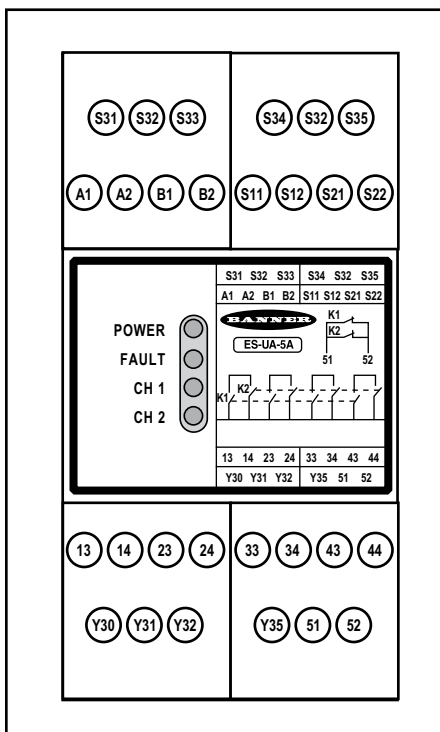
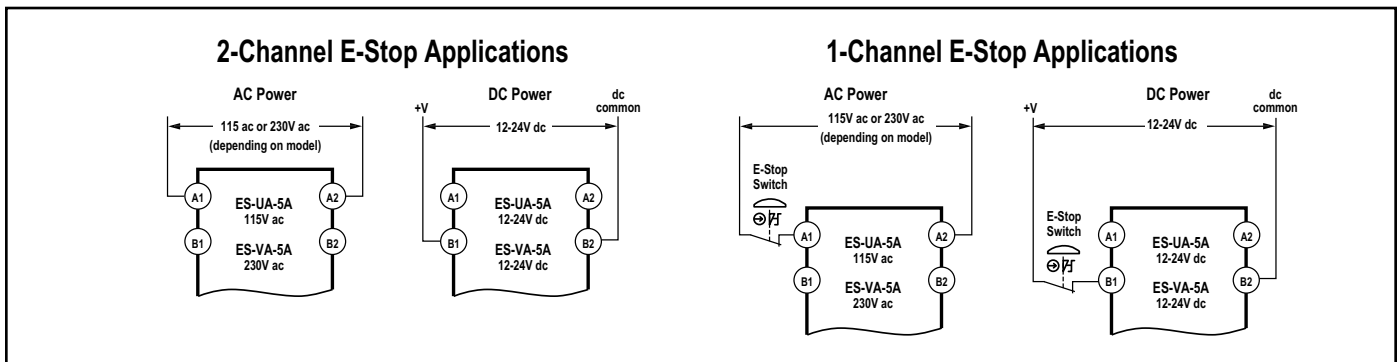

Figure 1. ES-UA-5A and ES-VA-5A Status Indicators and Terminal Locations
Figure 6. Power connections
The Safety Module has indicators for input power, fault, and output relay contact status (K1 and K2); see Figure 1. There are no adjustments and no user-serviceable parts. See page 10 for information regarding repair service.
3. Apply power to the E-Stop Safety Module at terminals A1 and A2 or B1 and B2 (see Figure 6). Verify that only the **Input Power** indicator (Figure 1) is ON. If either of the other two indicators is ON at this point, disconnect the input power and check all wiring. Return to step 2 after the cause of the problem has been corrected.